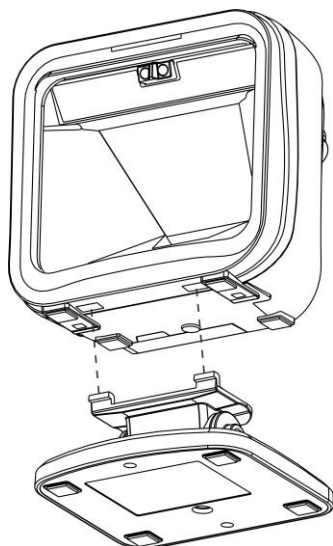

Figure 10-1
1. As shown in Figure 10-1, plug in two connection-arms to the two associated notches on the bottom of the image platform.